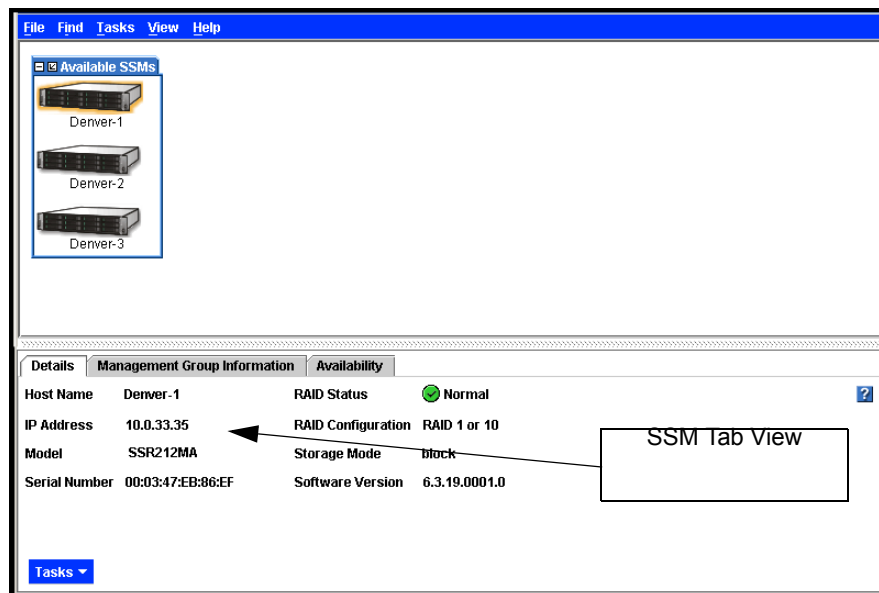

Figure 127. SSM Tab
3. Click Done from the SSM Edit Configuration window to return to the main Console window with the SSM tab view, shown in Figure 127.